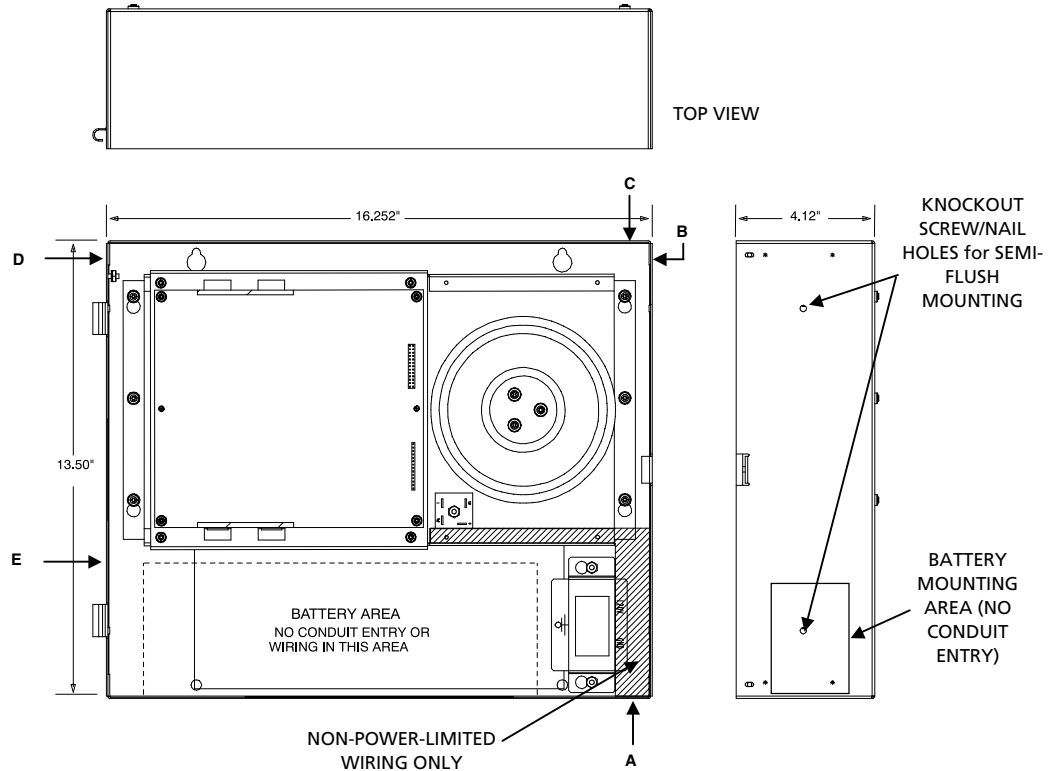

Figure 6. Installing the 4009 IDNet Back Box
4. Determine the amount and proper location of conduit/service entrances (see Figure 6). Make all appropriate entrances into the back box.
6. Wire Non-Power-Limited wiring in the shaded areas only (see Figure 6), this includes AC input and battery connections. All other wiring is Power-Limited. Maintain at least ¼-inch spacing between all Power-Limited and Non-Power-Limited wiring.